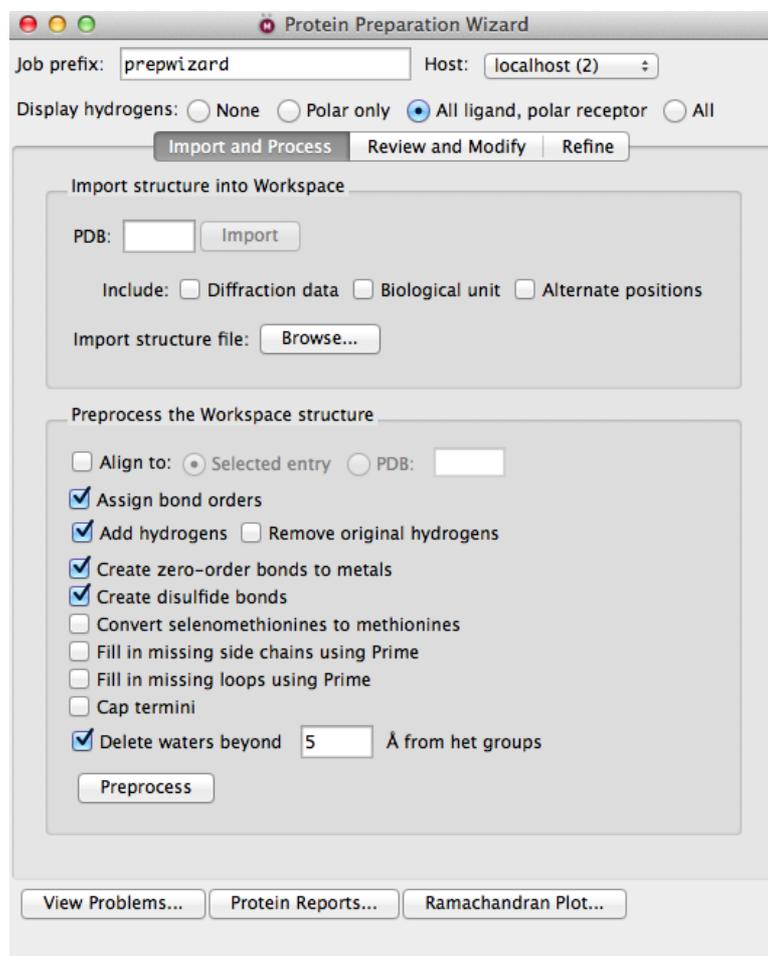

Figure 6. The Protein Preparation Wizard panel.
5. *Prepare a Protein Structure.* Access the Protein Preparation Wizard by pressing the **Prep Wiz** icon in the **Project** toolbar (**Figure 6**). The preparation wizard consists of a required processing step, followed by optional modification and refinement steps. To run the wizard, a **single** structure must be included in the workspace; this structure can be located in the project table or imported directly from the PDB in the first step. The recommended minimal processing tasks are checked; however, you may also wish to fill in missing side chains and/or loops if they are important for subsequent modeling activities. Press **Preprocess**.